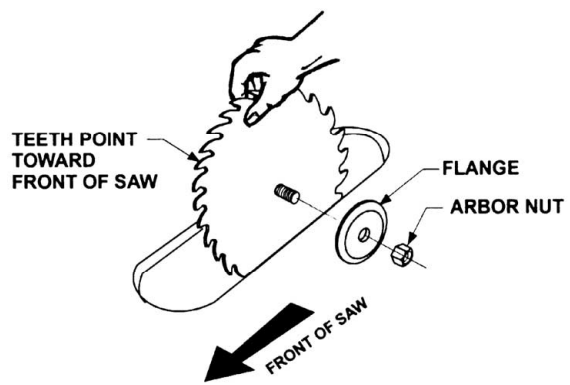

Figure 21
3. Remove the flange and place saw blade on the arbor making sure the cutting edge of the teeth at the top of the blade face **toward the front** of the saw, as shown in Figure 21.